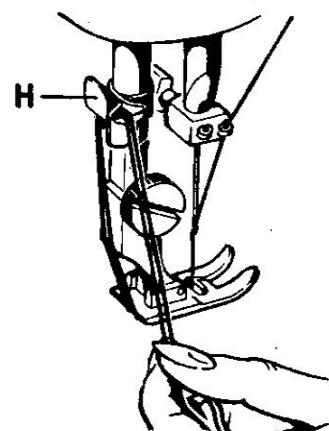

Fig. 18
- Draw fabric away from presser foot and draw threads, keeping them taut, through thread-cutter « H » (Fig. 18).